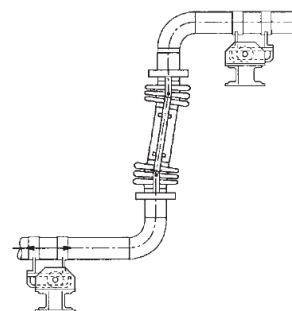

Fig. 17
- When installing lateral expansion joints (fig. 17), which can take up lateral expansion only in one plane, pay attention to consistency between the direction of the pipe expansion and the movement capability of the expansion joints (perpendicular to the bolt axis). The nominal lateral expansion capacity can be taken from the technical data sheets. Lateral expansion joints have no special demands on guide supports. For short-leg boiler and turbine room pipelines guide bearing is not necessary.